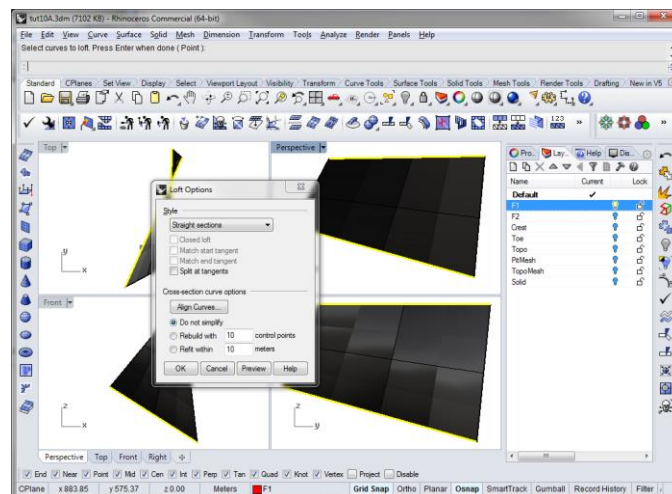

Figure 158: Lofting the fault lines.
1. In the menus use, **Surface|Loft**. In any of the views click on **one curve**, then the **next**, followed by **<ENTER>**. This opens the **Loft Options** (Figure 158).